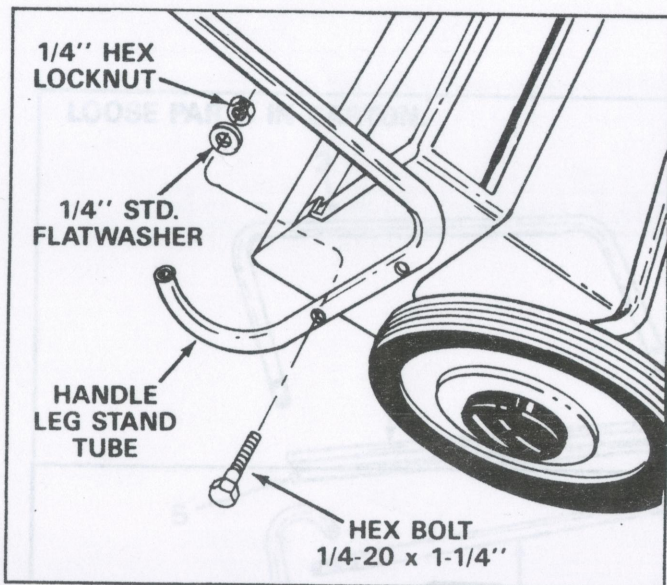

FIGURE 2
1. Assemble the two Handle Leg Stand Tubes to the Sweeper Housing, using two hex bolts 1/4-20 x 1-1/4" long, flat washers and 1/4-20 hex lock nuts, per handle. See figure 2. Only hand tighten at this time.